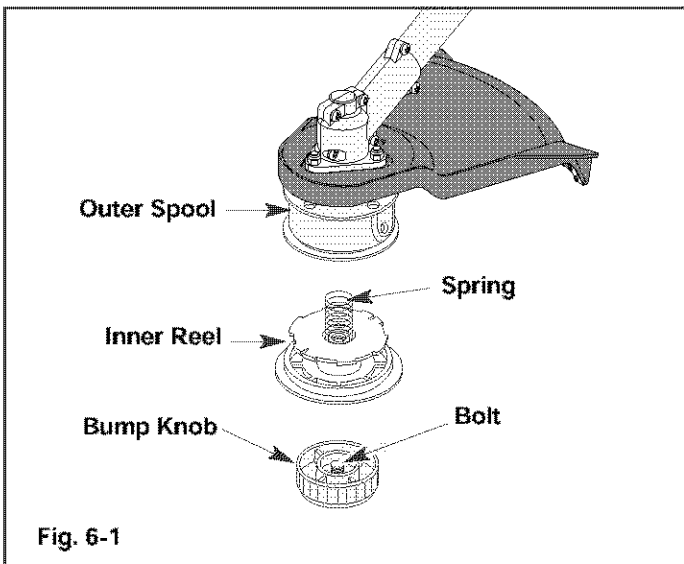

Fig. 6-1
1. Hold the outer spool with one hand and unscrew the Bump Knob clockwise (Fig. 6-1). Inspect the bolt inside the Bump Knob to make sure it moves freely. Replace the Bump Knob if damaged.
2. Remove the inner reel from the outer spool (Fig. 6-1).
3. Remove spring from the inner reel (Fig. 6-1).
2. Remove the old inner reel from the outer spool (Fig. 6-1).
3. Remove the spring from the old inner reel (Fig. 6-1).